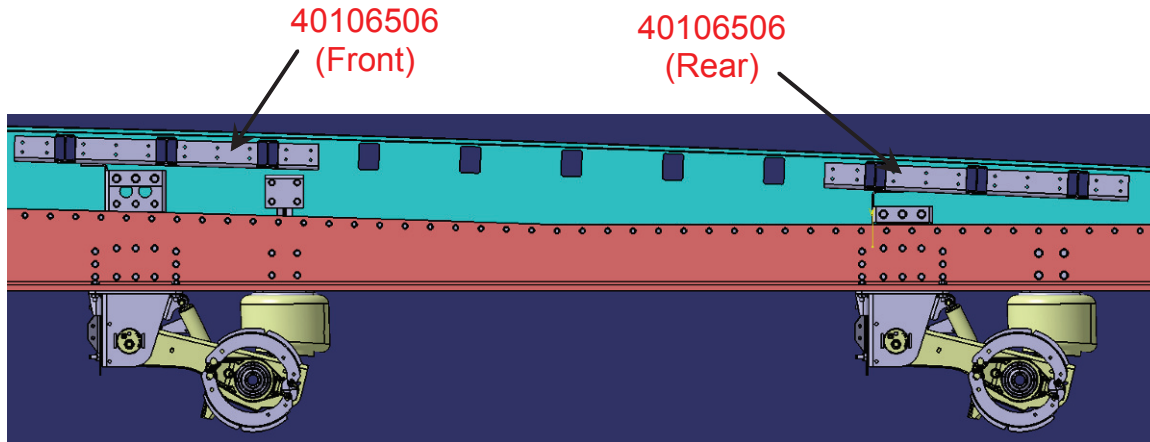

Figure 2. 40106506 installation
- Part 40106506 should be centered across the three cross-members above the suspension, as shown in Figure 2.